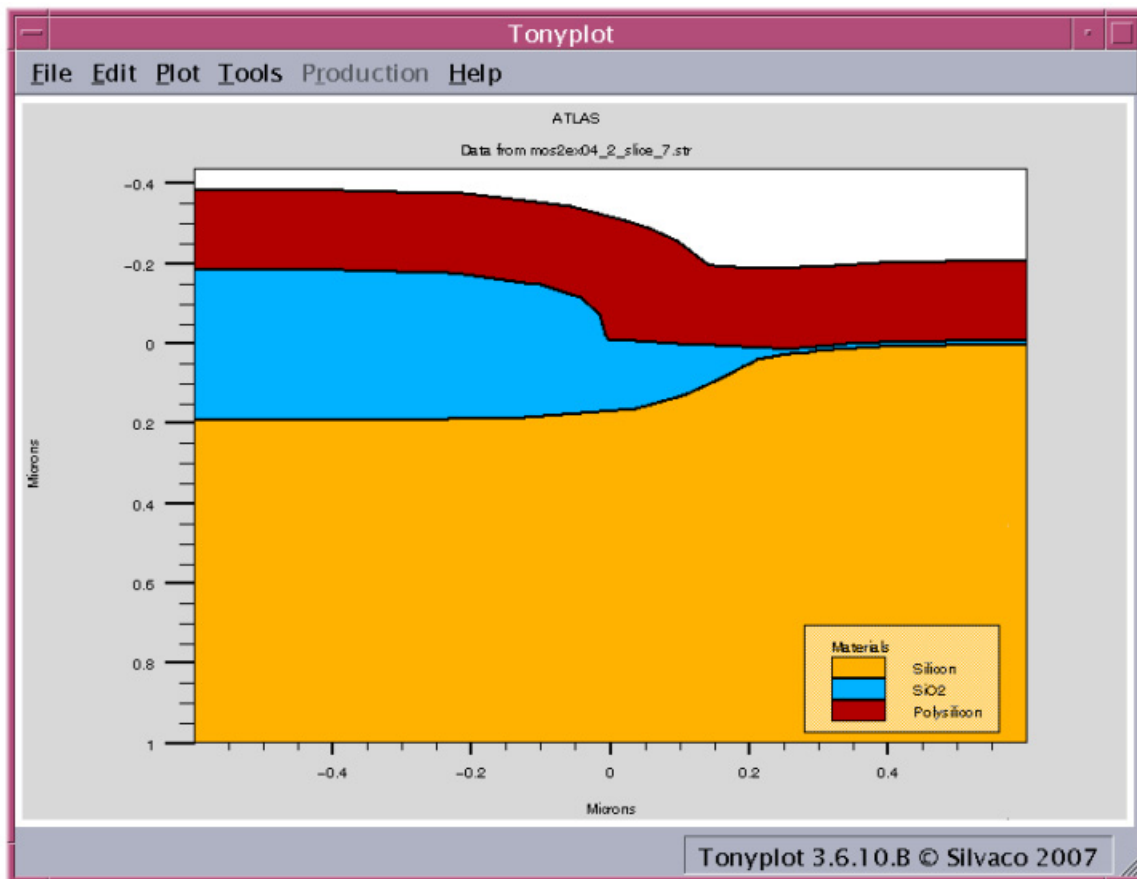

Figure 2-26: Unique Cutplane Name Form
When TONYPLOT3D exports a cutplane to TONYPLOT, the temporary file name now has a unique, informatic form "structurename_slice_sequencenumber.str". Here, the "structurename" is name of the original 3D structure with the .str suffix removed, and "sequencenumber" is an integer. To export the cutplane to TONYPLOT, press **Export** in the Cutplane View window. During the exporting, TONYPLOT3D checks the temporary directory and searches for all occurrences. The unique sequence number is selected starting from 1 until the first available integer. If, for example, there are 6 files (all have the same structurename) with the sequence number from 1 to 6 existing in the temporary director, then the next highest integer (7) will be chosen. In Figure 2-26, the structurename is mos2ex04_2, the sequencenumber is 7.